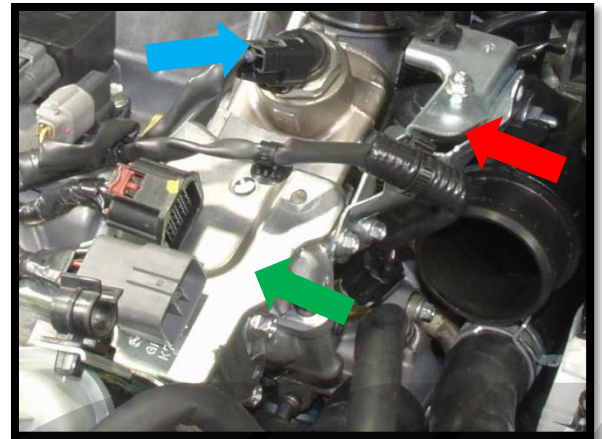

Figure 7i
- k) Replace the intake bracket (red arrow) and fasten it with the nut and two (2) bolts removed in step 1m (Figure 7i).
- l) Replace the wiring harness bracket (green arrow) and fasten it in place with the two (2) 8mm bolts removed in step 1j (Figure 7i).
- m) Re-connect the high pressure fuel pump electrical connector (blue arrow in Figure 7i).